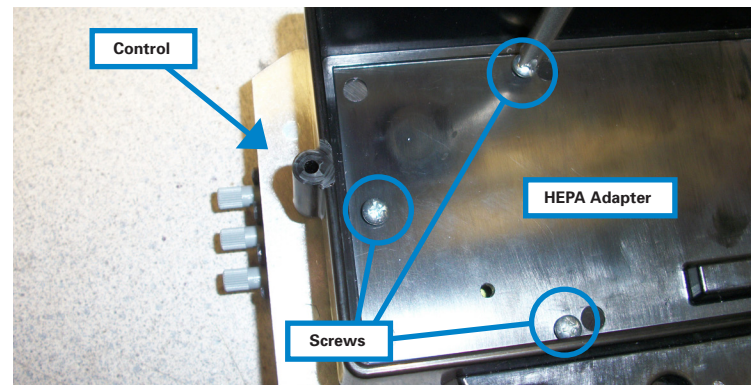

Figure 8
8. Set HEPA Adapter on top of Control and align the three mounting holes in the Adapter to three matching holes on the control bracket. Use the 3 enclosed 6-32 self-tapping screws to attach the Control to the HEPA Adapter. (Figure 8)